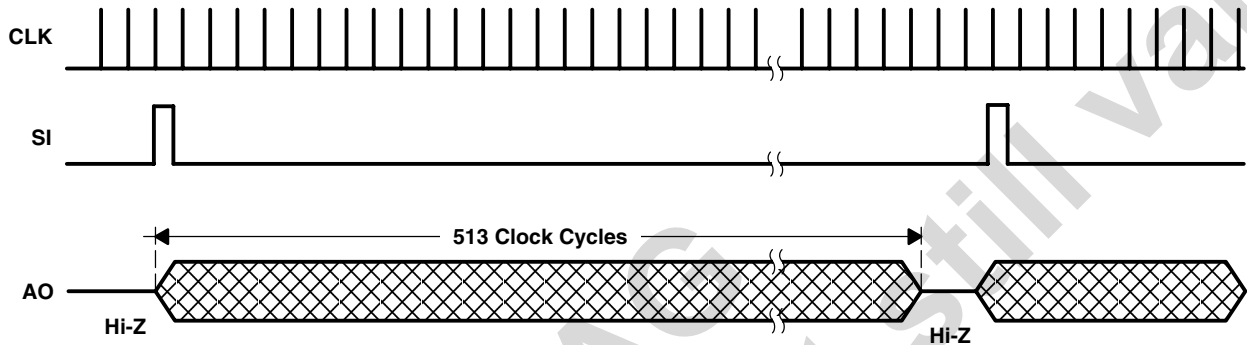
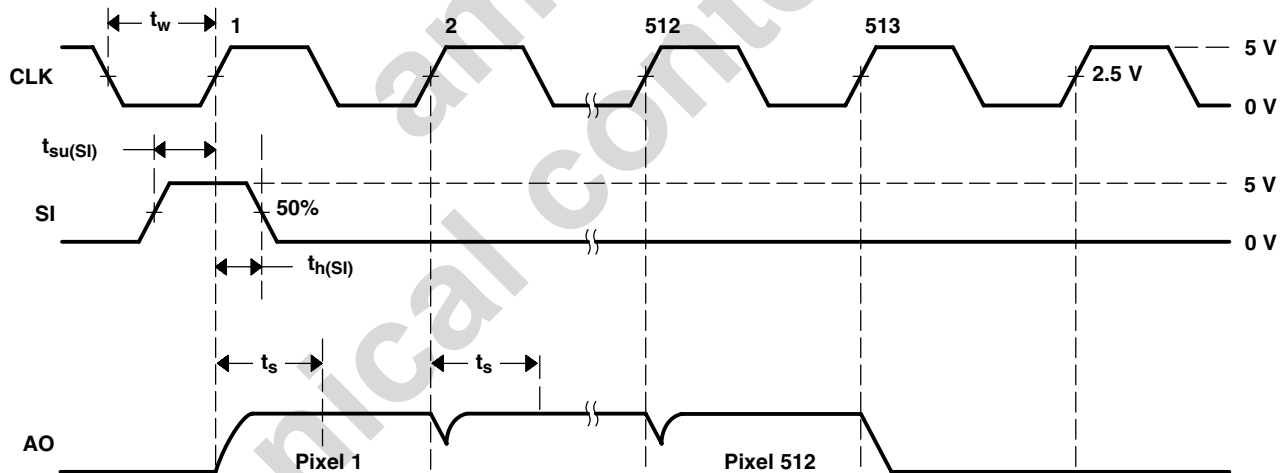

Figure 1. Timing Waveforms (each section)
Figure 2. Operational Waveforms (each section)
The output and reset of the integrators is controlled by a 512-bit shift register and reset logic. An output cycle is initiated by clocking in a logic 1 on SI for one positive going clock edge (see Figures 1 and 2)†. As the SI pulse is clocked through the 512-bit shift register, the charge on the sampling capacitor of each pixel is sequentially connected to a charge-coupled output amplifier that generates a voltage output, AO. When the bit position goes low, the pixel integrator is reset. On the 513th clock rising edge, the SI pulse is clocked out of the shift register and the output assumes a high-impedance state. Note that this 513th clock pulse is required to terminate the output of the 512th pixel and return the internal logic to a known state. A subsequent SI pulse can be presented as early as the 514th clock pulse, thereby initiating another pixel output cycle.
**Recommended Operating Conditions (see Figure 1 and Figure 2)**
### Timing Requirements (see Figure 1 and Figure 2)
Dynamic Characteristics over recommended ranges of supply voltage and operating free-air temperature (see Figure 2)